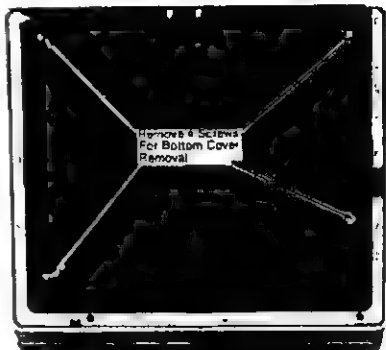

Fig. 2-3. — Bottom Cover Removal
- 2. Remove 4 each Phillips head screws (Figure 2-3).